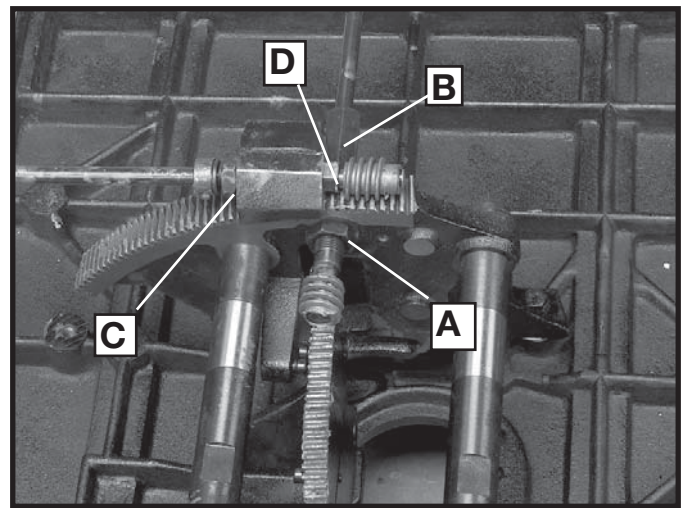

Fig. 71
1. **Adjusting blade raising mechanism** - Loosen locknut (A) Fig. 71, and turn eccentric sleeve (B) until all play is removed in mechanism, then tighten locknut (A).
2. **Adjusting blade tilting mechanism** - Loosen locknut (C) Fig. 71, and turn eccentric (D) until all play is removed in mechanism, then tighten locknut (C).